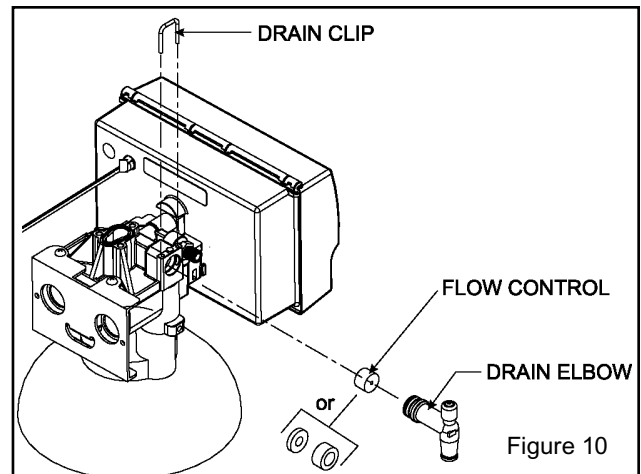

Figure 10
For backwash flow control conversion, refer to Figure 10 and instructions listed below.
- Insert the flow control washer with the molded numbers facing toward the valve body. Refer to Table 1. For the 6.0 gpm flow control, insert the flow control with the molded “5.5” facing away from the valve body. Insert the plastic flow control spacer after the 7 gpm flow control washer on the 10” Filtr-Clear. See Figure 10.